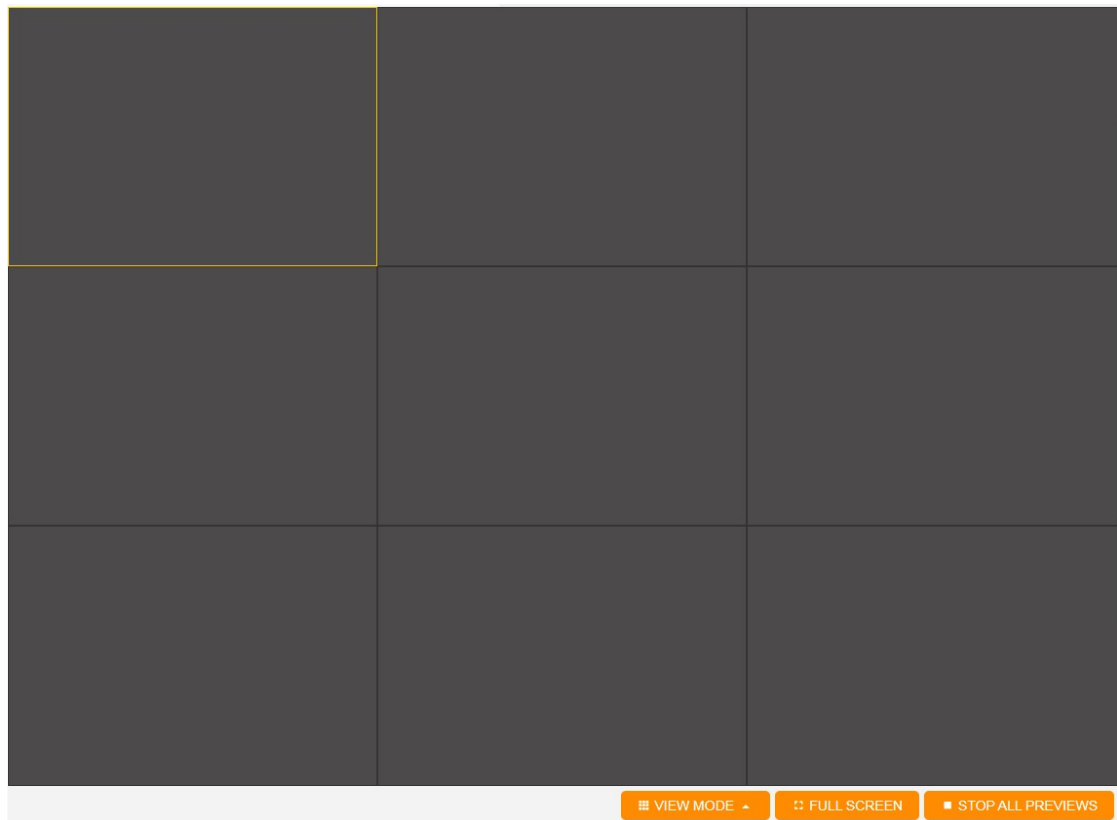

Figure 14-23 9-grid view
2. When you click a view mode, the window is split into a corresponding number of small windows. For example, if you click **9-GRID**, the view mode is changed, as shown in Figure 14-23.